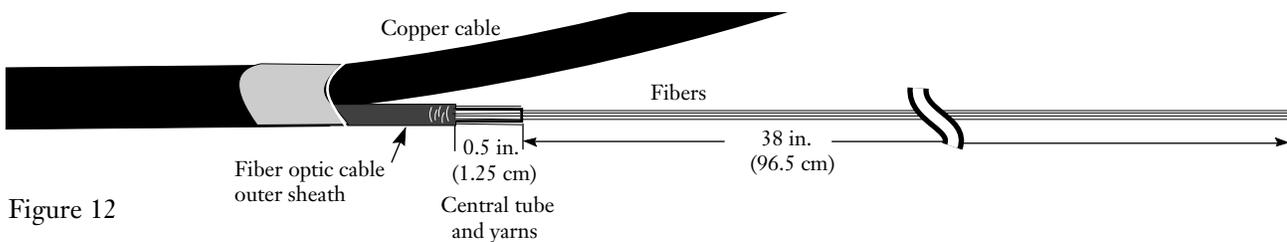

Figure 12
5.18 To prepare the central tube (Figure 12) :